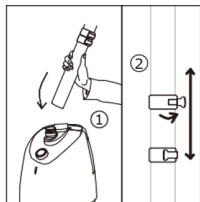

Fig. 2
2. Insert the bottom of the telescopic stand into the stand base as shown at the Fig. 2.